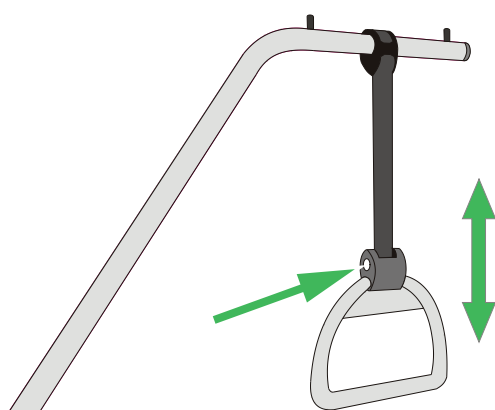

Figure 3
5. To adjust the height of the handle above the bed, press the release button and adjust the strap to the required length. See Figure 3.